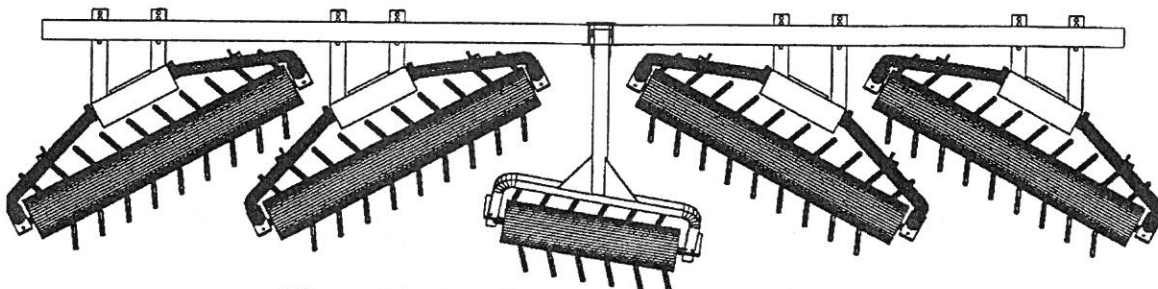

Figure 14. Two foot Centre Section Mounting
2. Mount a left or right Active Harrow on its respective side as shown in Figure 14. The overlap should be approximately one or two tines.